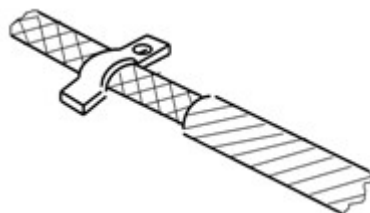

Figure 1-11. Improved Shielding
- > Install a ferrite core around the cable as close to the SPiiPlusNT/DC as possible as illustrated in Figure 1-11.